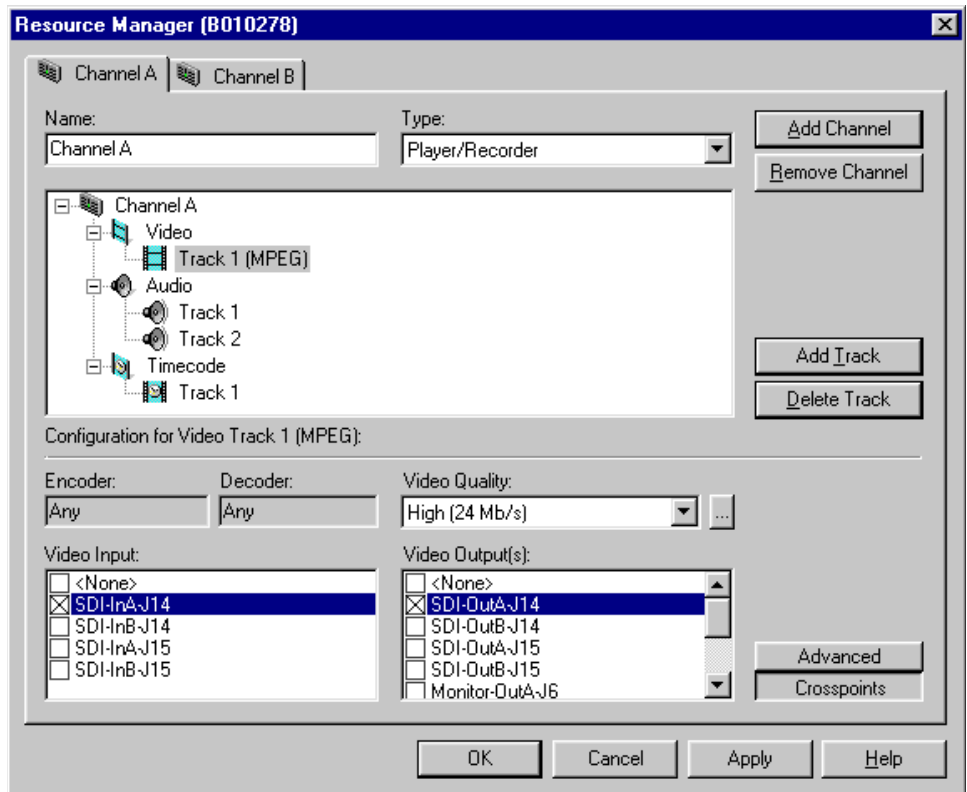
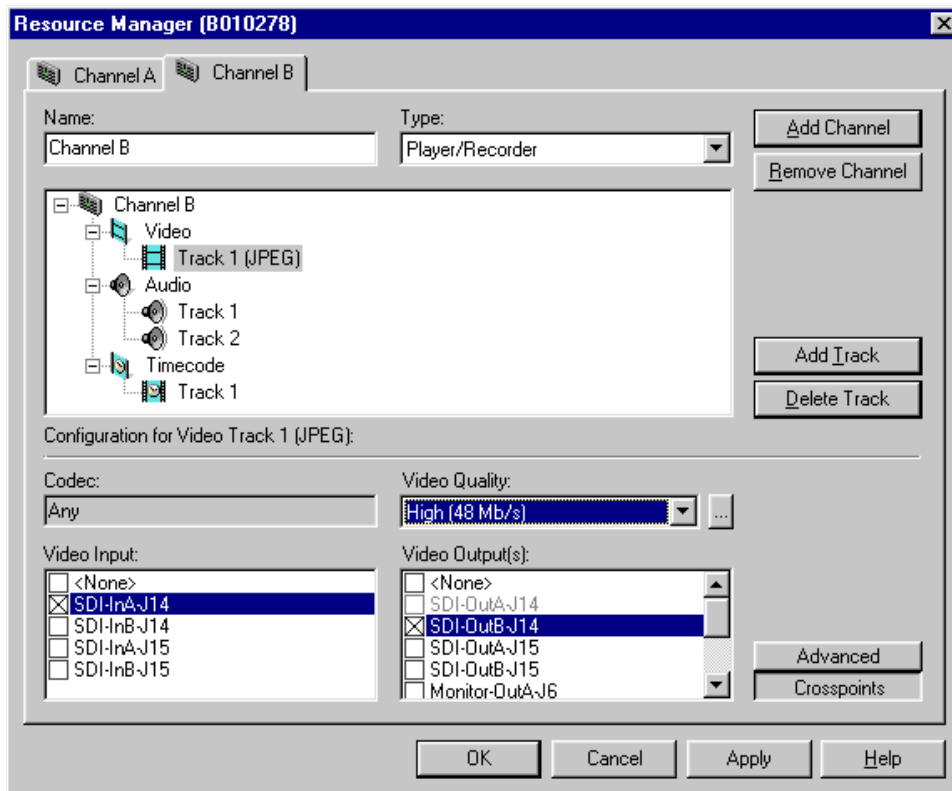

Figure 153. MPEG video track settings
Figure 154. JPEG video track settings
6. Click the **Crosspoints** button and then select a video input from the Video Input check boxes (see Figure 153 for MPEG or Figure 154 for JPEG). The names of video inputs are determined by the system configuration created with the Configuration Manager application (see Chapter 2, “Using the Profile Configuration Manager”). You can choose only one video input at a time per track.